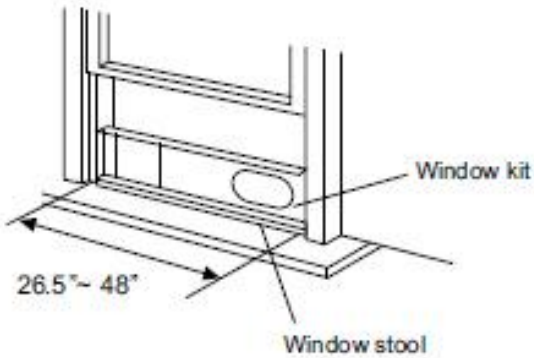

Fig. 10
- 2) Attach the window slider kit to the window stool. Adjust the length of the window slider kit according to the width of the window. Modify/cut the window slider kit if the width of the window is less than 27". Open the window sash and place the window slider kit on the window stool. See Fig. 10.